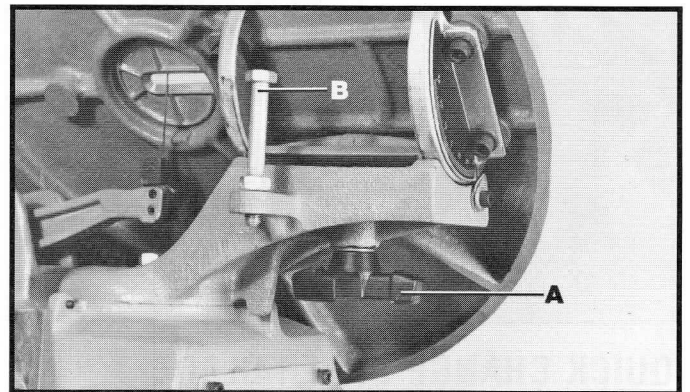

Fig. 27
The table on your scroll saw can be tilted 45 degrees to the right and 30 degrees to the left. To tilt the table to the right, loosen lock knob (A) Fig. 27 and move the table to the desired angle of tilt. **NOTE:** To tilt the table to the left, it is necessary to remove table stop (B). Tighten lock knob (A) when table is at desired angle of tilt.